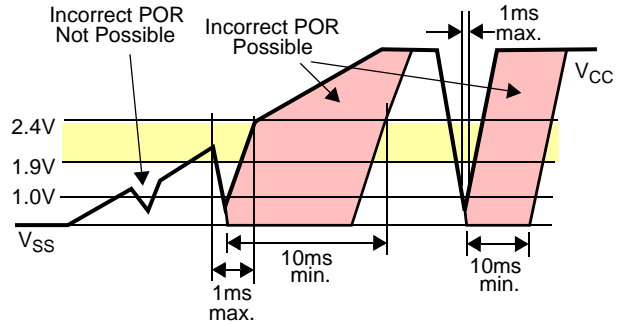

FIGURE 5. V_{CC} POWER-ON BROWN-OUT CONDITION
3. Noise or voltage direction changes are especially significant when V_{CC} is in the range of 1.9 to 2.4V. See Figure 5.
4. If the voltage on V_{CC} reaches 1.9V or greater, and then falls to less than 1V, must recover to 2.4V within 1ms or go to zero volts for more than 10ms. This is a "brownout" condition. A brown-out condition that happens before V_{CC} reaches 1.9V always retains the proper configuration. See Figure 5.